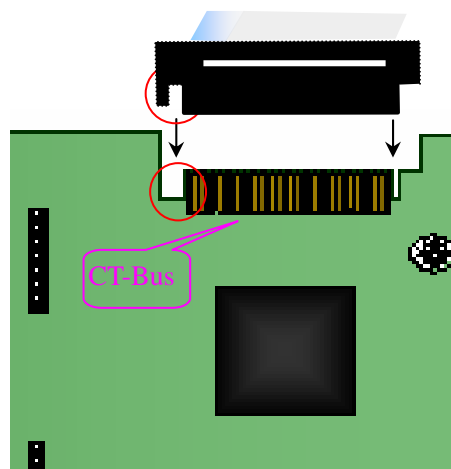

Figure 2-5 Connection of H.100 Bus
- ① See Figure 2-5 for correct insertion. Do not twist or insert in the opposite direction.